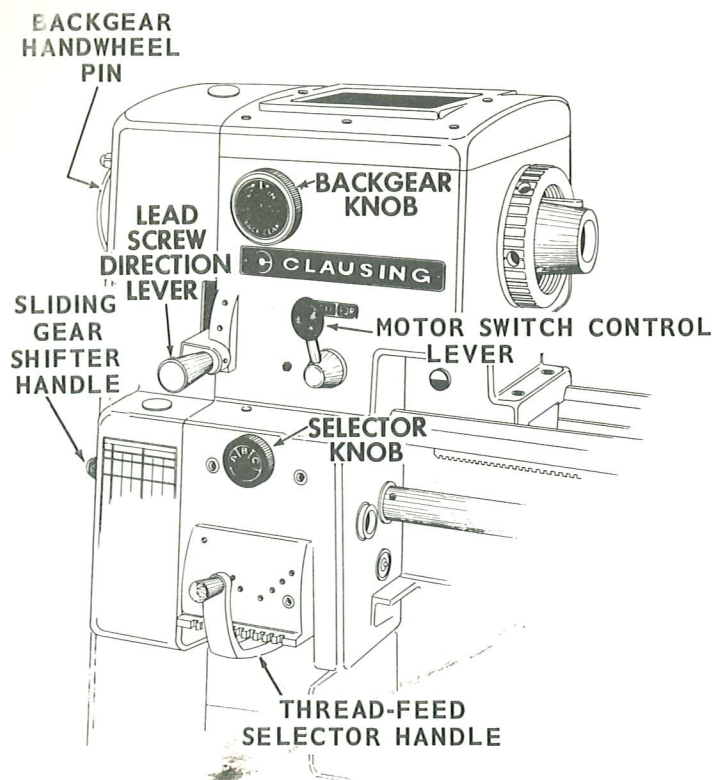

Figure 8
MOTOR CONTROL LEVER located on front of headstock controls rotation of lathe spindle. It has three positions -- REVERSE, OFF, and FORWARD -- refer to figure 8.
See figure 8 for the location of the controls described below. Their positions for thread or feed selected are shown on chart.
- A. Move thread-feed selector handle to the number position indicated on chart -- refer to figure 8.